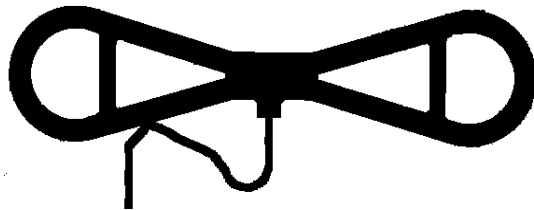

Figure 3, Antenna Tie Wrap Modification
29. Referring to Figure 3, measure back 4" from the connector that attaches to the Figure 8 Loop. Place that point on the cable next to the Figure 8 Loop and place a Cable Tie (5878-0016) on it. This will stop the cable from being pulled out of the Antenna Cable Connector.